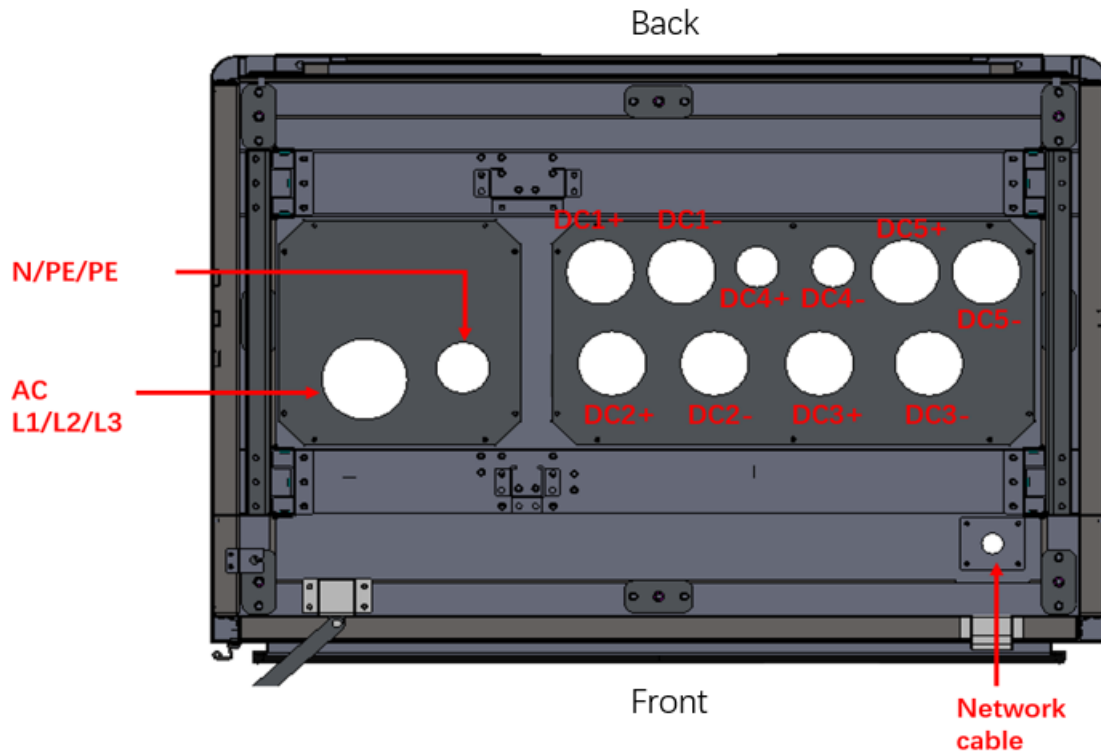

Figure 13 Cable inlet holes at the bottom of power cabinet
(6) The cables are led in from the bottom of cabinet, and the cable inlet holes at the bottom of cabinet are shown in Figure 13, and then the cables will be connected to the corresponding cable terminals.